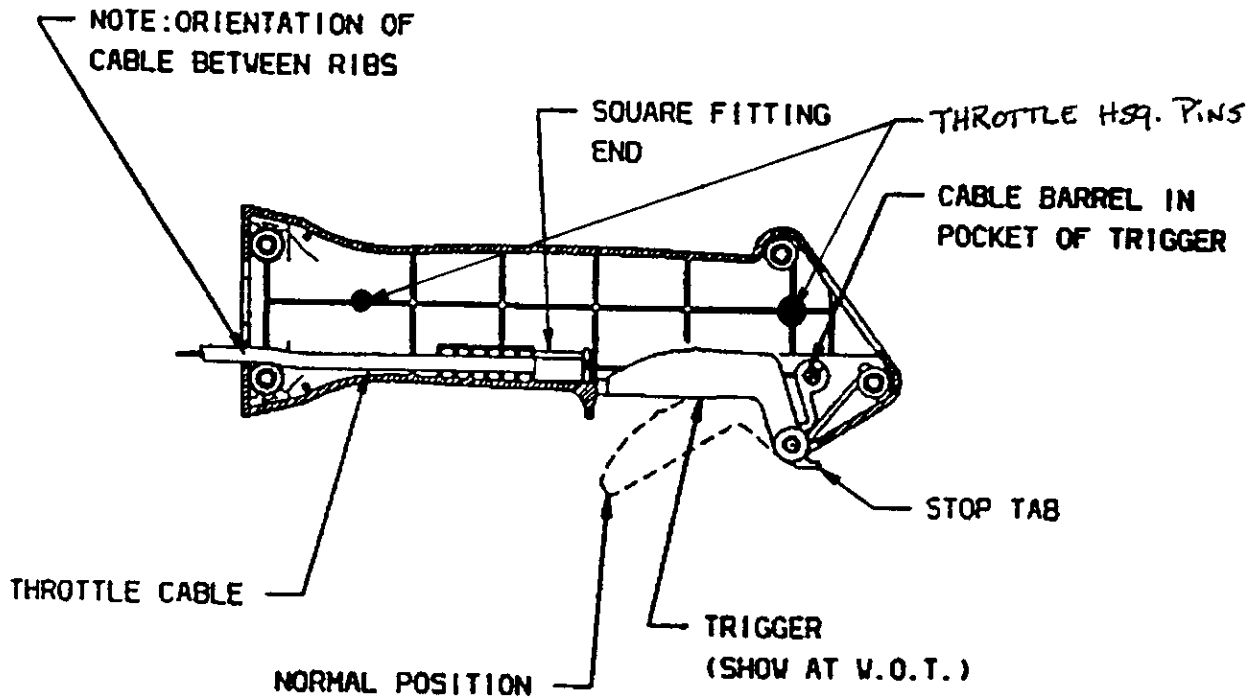

FIGURE 20
B. PLACE THROTTLE TRIGGER ONTO POST IN HANDLE (FIGURE 20).